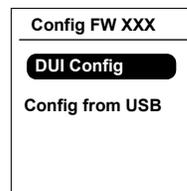

Figure 1-13 DUI Config screen
- j) After config firmware upgraded successfully, the following screen will appear on DUI (Refer to Figure 1-13 on page 1–15).
Note 2: If USB flash drive is connected to unit after step j, DUI may display "PRESS OK TO UPGRADE FIRMWARE" message. **Do not press OK. Wait for 15 seconds**, display will come back to DUI Config screen as shown in Figure 1-13 on page 1–15. Then proceed with next step.
- k) Select the DUI Config as shown in Figure 1-13 on page 1–15.